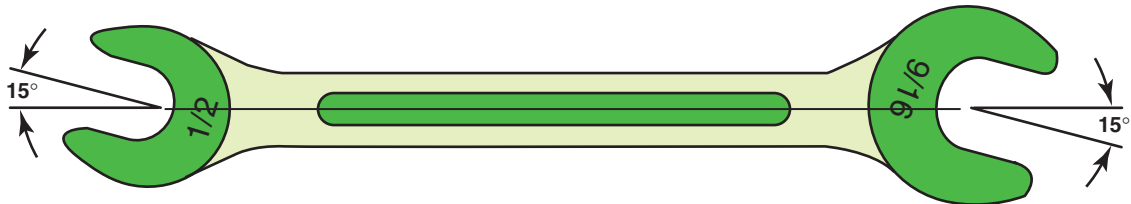

FIGURE 1-16 A typical open-end wrench. Note the size difference on each end and that the head is angled 15 degrees at the end.
- An **open-end wrench** is often used to loosen or tighten bolts or nuts that do not require a lot of torque. Because of the *open* end, this type of wrench can be easily placed on a bolt or nut with an angle of 15 degrees, which allows the wrench to be flipped over and used again to continue to rotate the fastener. The major disadvantage of an open-end wrench is the lack of torque that can be applied due to the fact that the open jaws of the wrench only contact two flat surfaces of the fastener. An open-end wrench has two different sizes, one at each end. ● **SEE FIGURE 1-16.**